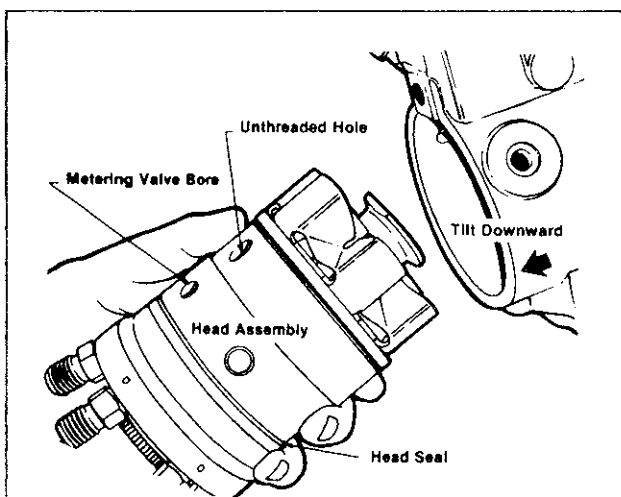

FIGURE 5.13a
STEP 13 The hydraulic head and rotor assembly including the transfer pump assembly, cam ring and governor assembly, are now ready to be put into the housing. Install a new seal on the hydraulic head after first greasing it slightly. Apply a light film of clean grease around the inside edge of the housing and tilt the housing slightly downward at the rear to aid in assembly. Rotate the cam ring so that the unthreaded hole is in line with the metering valve bore. This will insure proper position of the cam ring. Grasp the hydraulic head firmly in both hands and insert it into the housing bore with a slight rotary motion (Figures 5.13a and 5.13b). **Do not force.** If the assembly should jam during insertion, withdraw and start over.